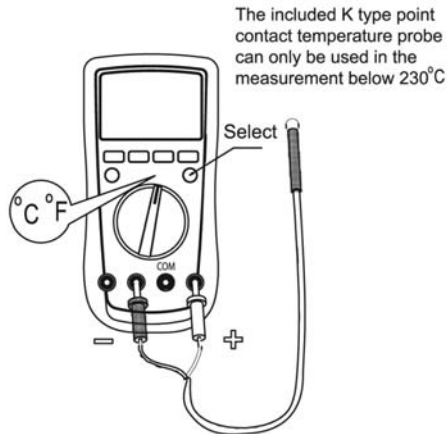

figure 9)
## H. Temperature Measurement (72-10405 only) (See figure 9)
2. Insert the temperature probe into the input terminal as shown on the figure 9.